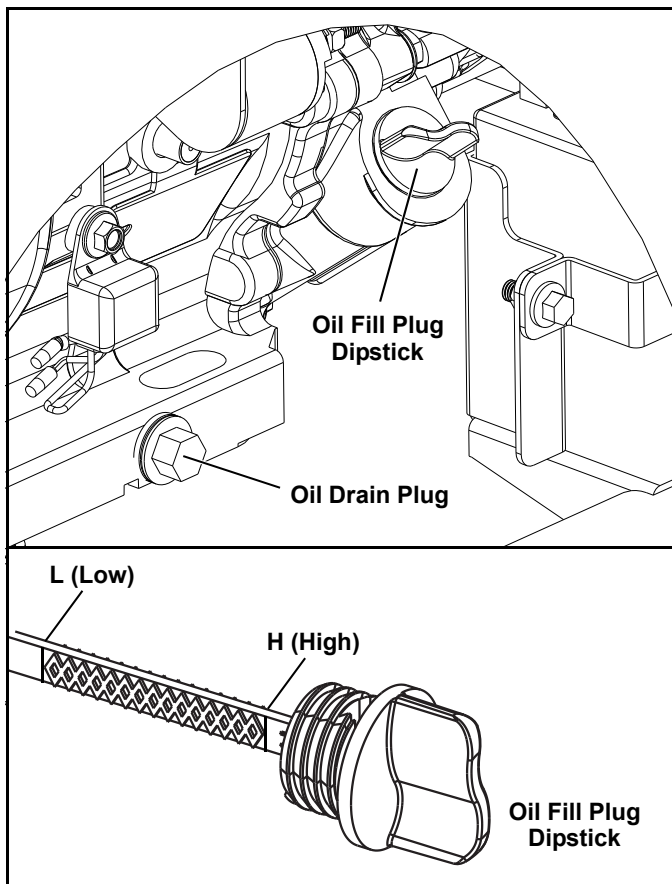

Figure 4-1. Oil Drain and Fill Locations
1. Clean area around oil fill plug/dipstick. See Figure 4-1.